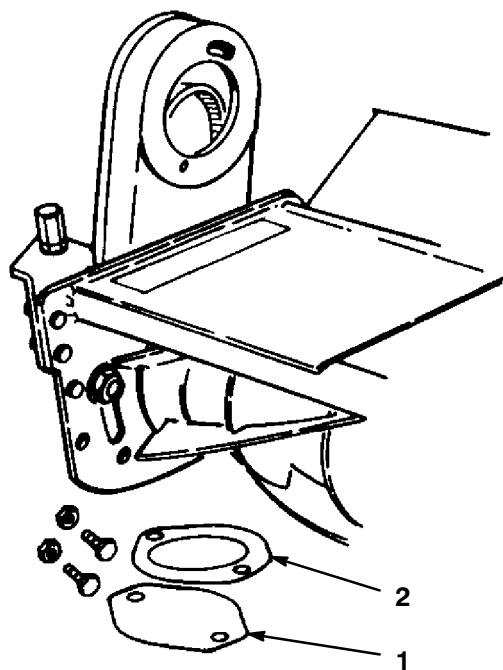

**Figure 8**
1. Locate mounting position of roller bumpers (Fig. 8) on each side of frame tube in front of #1 cutting unit.
2. Loosely secure a roller bumper to each side of frame tube, as shown in Figure 8, with U-bolts and locknuts.